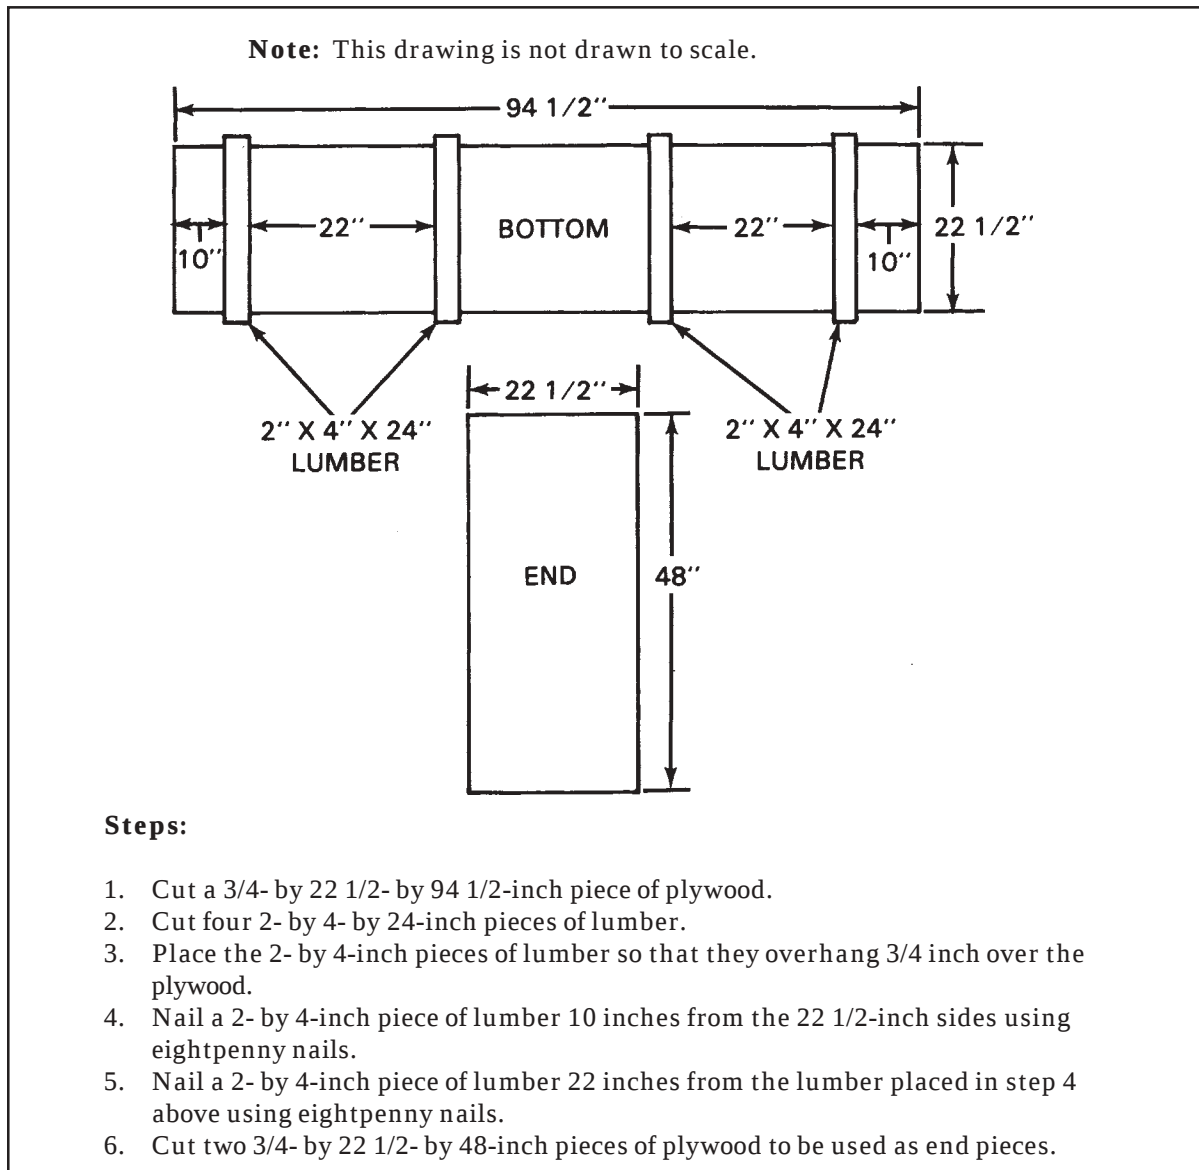

Figure 1-5. Bottom and Ends for FARE Container Built
- c. **BUILDING BOTTOM AND ENDS.** Build the bottom and ends for the container as shown in Figure 1-5.